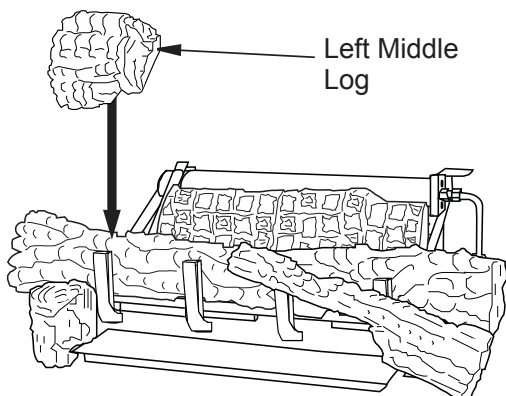

Figure 32 - Installing Left Middle Log
5. The left middle log has a groove on the bottom to sit on the chassis and has to sit on the tab on the back of the left front log as shown in **Figure 32**.